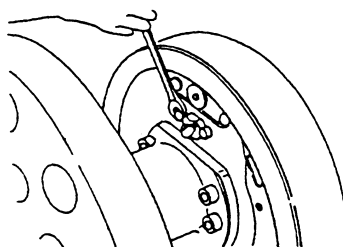

Fig.2-16
(5) Remove the brake line from the operating cylinder, then remove the mounting bolts of operating cylinder and detach the operating cylinder from the backing plate of wheel brake. See Fig. 2-16.
(6) Remove the E-retainer for securing the parking brake cable to the backing plate. Remove the backing plate mounting bolts and detach the backing plate from the drive axle.